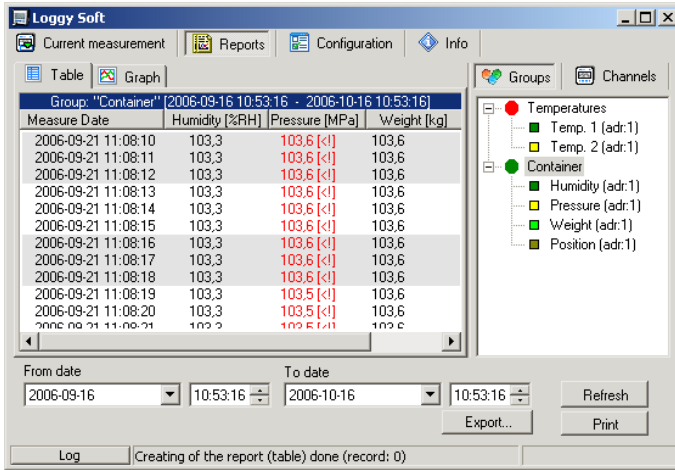

Fig. 3.3. **Reports** - menu
The **Table** tab (Fig. 3.3) is used for printing information concerning recorded measurements (e.g. temperature, humidity) in the form of a table for one of the groups or a particular measurement channel selected by the user (for more information on groups see 3.3.2 section, at page 94). This tab also enables the export of data to text format files. The exported file is formatted in a way allowing the transfer of data to a calculation sheet.
- click appropriate tab **Groups** or **Channels** (Fig. 3.3),